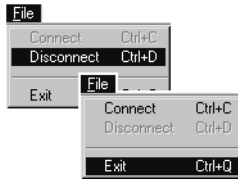

Figure 2-31. Click Disconnect then Exit
- Click **File ▶ Disconnect** (Figure 2-31), then click **File ▶ Exit** to quit the program. Continue with other configuration or operation functions as needed.